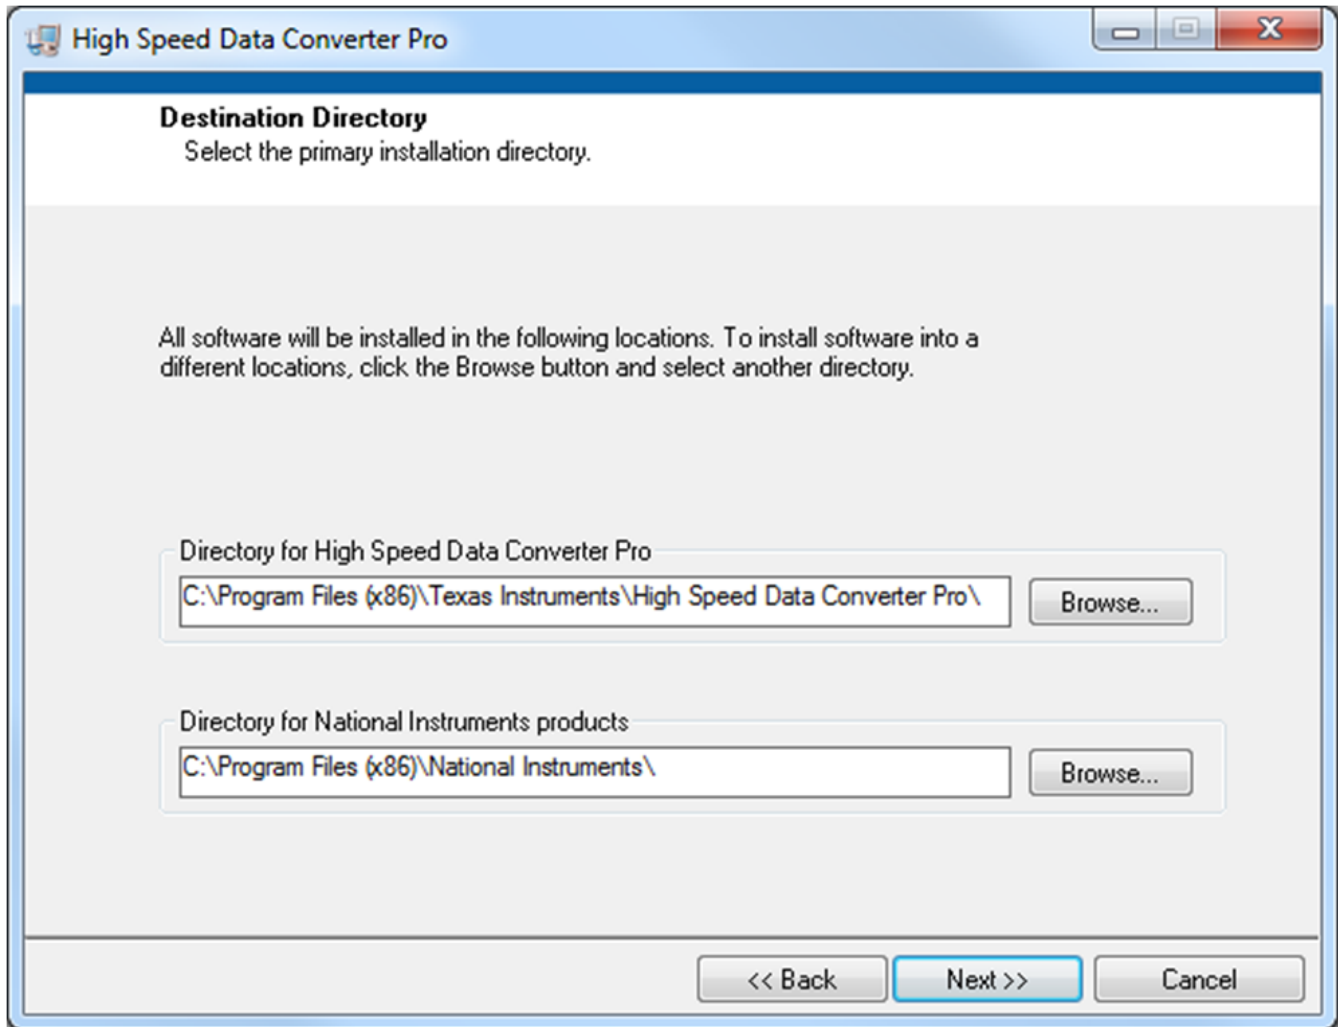

Figure 41. HSDCPro Install (Install Directory)
- Leave the destination directories as the default location, for the TSW1400GUI installation and press the NEXT button as shown in Figure 41.